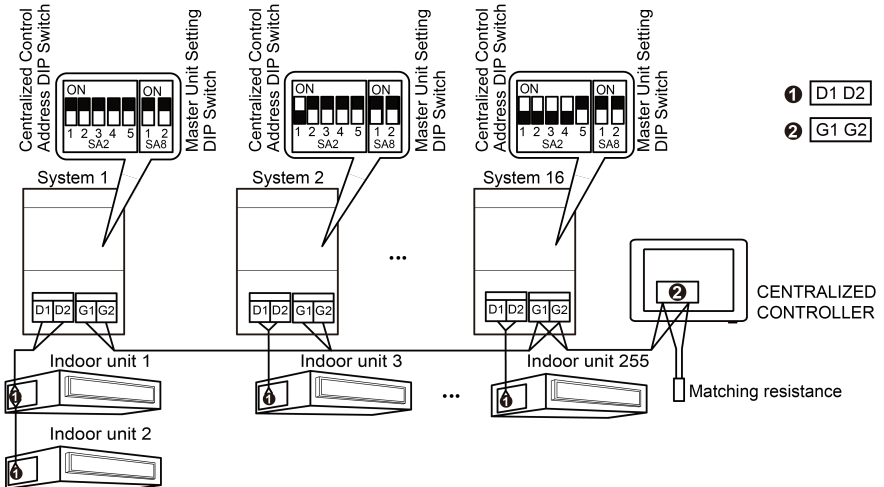
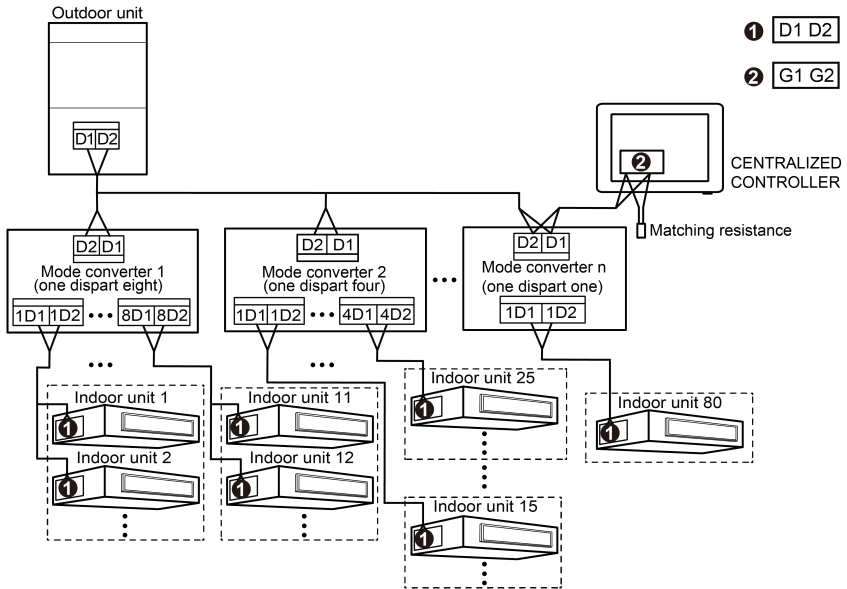

Fig.3.5 Centralized Controller Connected with Outdoor Network
Fig. 3.6 Centralized Controller Connected with Heat Recollection Mode Converter Network
- (3) If the centralized controller is to be connected with the network of outdoor units, connect according to fig.3.5. The centralized controller can only be connected with the terminal system of the outdoor network. A matching resistance needs to be added with the communication cords at the G1 and G2 ports.
- (4) The centralized control address DIP switch (SA2_Addr-CC) indicates the centralized control address required when different refrigerating systems are controlled in a centralized manner. The default factory setting is "00000".
- (5) If the centralized controller is to be connected with the network of heat recollection, connect according to Fig.3.6. The method 2 is also applicable to centralized controller switching in heat recollection network.